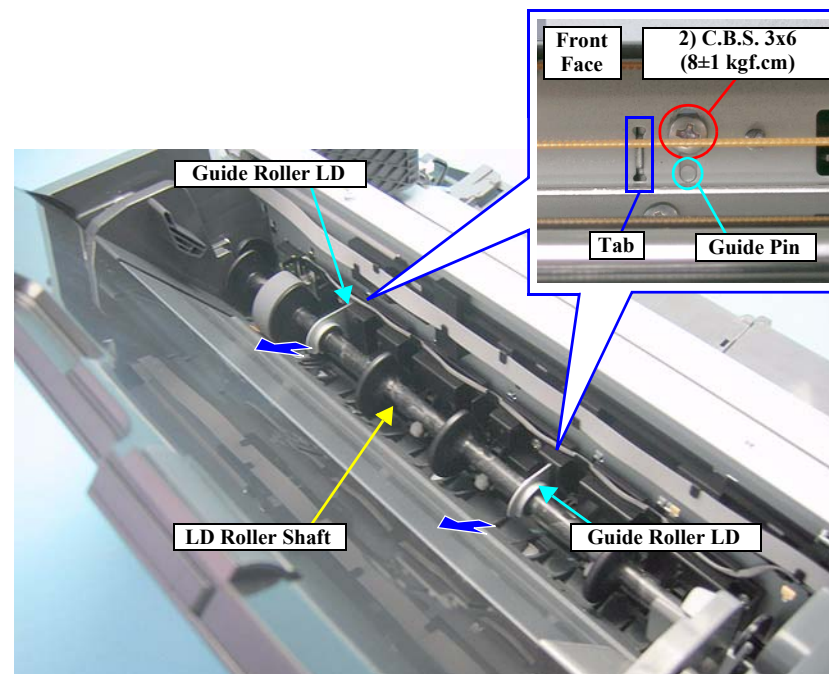

Figure 4-30. Removing the Guide Roller LD
Align the Guide Pins and tabs on the Guide Roller LDs with the positioning holes on the Main Frame. See Figure 4-30.
1. After installing the ASF Assy, loosen the two screws (2) C.B.S. 3x6) that secure the Guide Roller LD. See Figure 4-30.